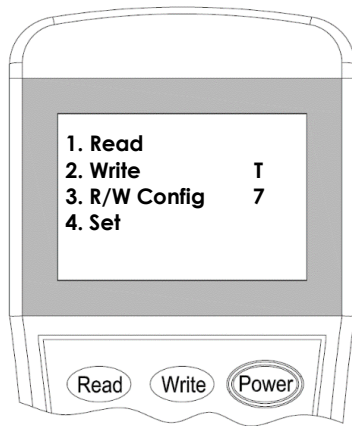

Figure 8
2. Switch-on the programmer, then press button **"Write"** or number **"2"** to enter Write Address mode (Figure 8).